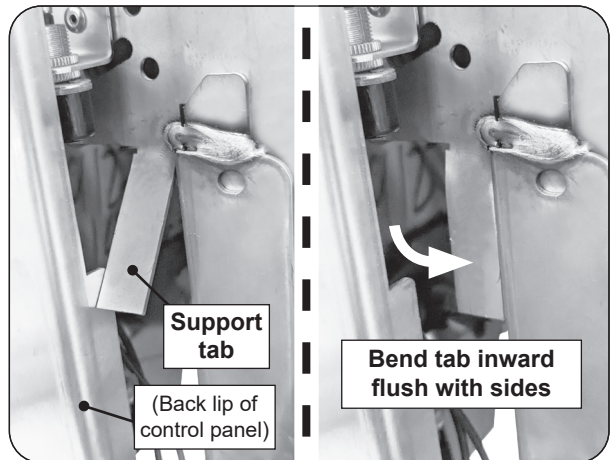

Fig. 10-2 Bend support tabs
- Using pliers or your hands (wear gloves), bend the face support tabs inward until they align flush with the sides. See Fig. 10-2.